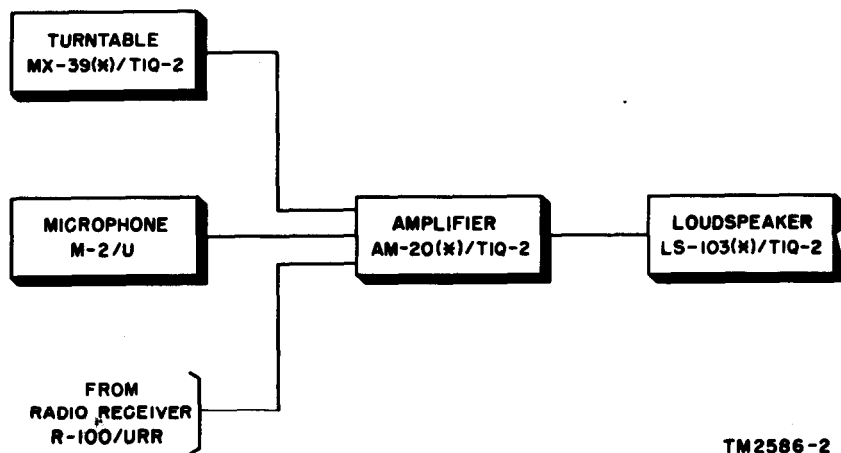

Figure 2. PA set, functional block diagram.
b. Use. Public Address Set AN/TIQ-2(*) can be used inside a building or assembly hall, outdoors in training areas, or mounted in a vehicle for mobile transmission. Figure 2 is a block diagram of the equipment ready for use.